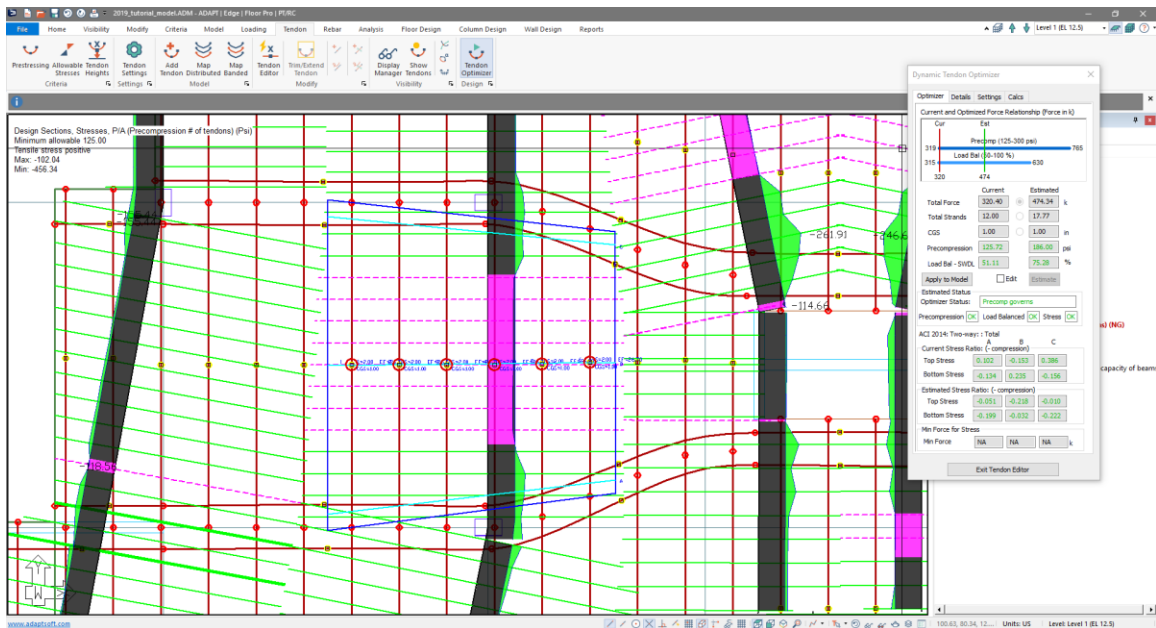

Figure 9-99
- Select the midpoints of the tendons that cross the pink design sections in this area. The program will create the *Dynamic Tendon Optimizer* tributary and sections as shown in **FIGURE 9-99**.